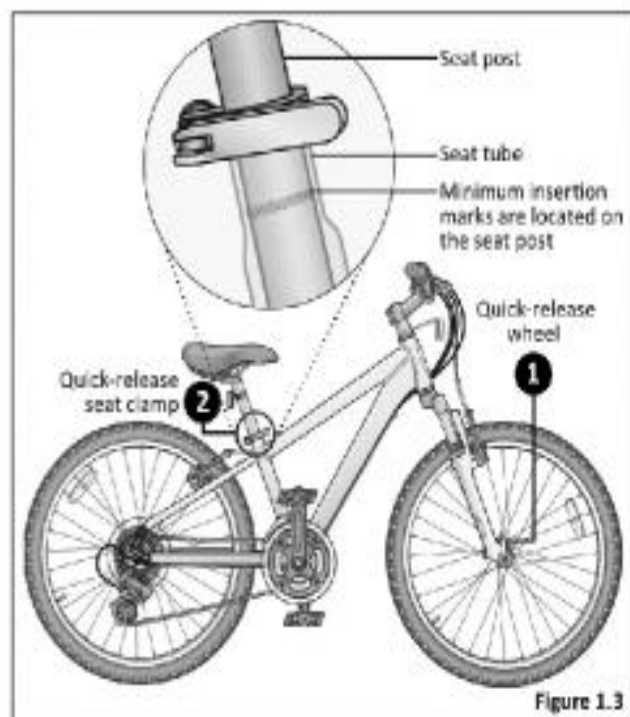

Figure 1.3
- 1 Some bicycles will come equipped with quick-release levers for the front wheel. The wheels must be securely locked. Ensure the wheel quick-release lever is firmly locked in place. Figure 1.3